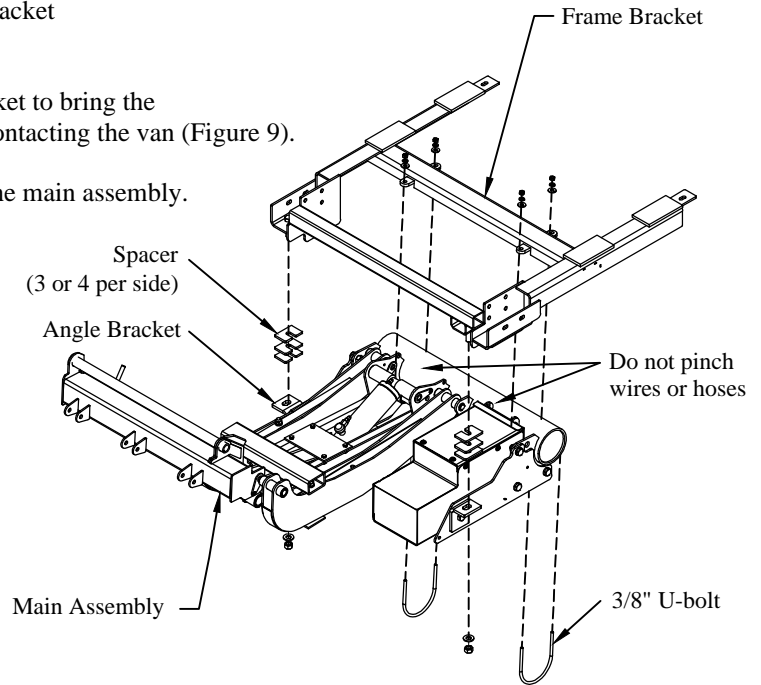

Figure 9: Main assembly position on frame.
- 4. Attach** the 3/8" U-bolts to the front channel in the frame bracket with the supplied four (4) flat washers, lock washers and nuts.
- 5. Attach** each angle bracket to the 5/8" bolts on the frame bracket with the supplied washers and lock nuts (Figure 9).
- 6. Add** spacers between the angle bracket and the frame bracket to bring the rear of the main assembly as high as possible without contacting the van (Figure 9).